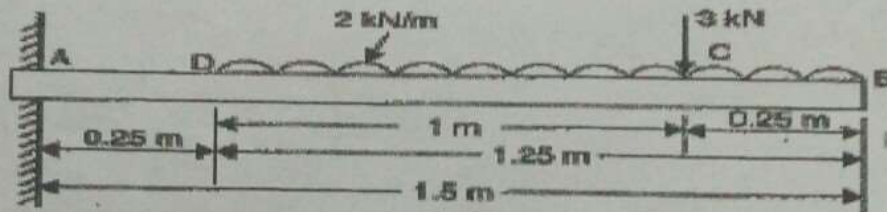

Fig.4.
- b. A cantilever 1.5 m long is loaded with a uniformly distributed load of  $2 \text{ kN/m}$  run over a length of  $1.25 \text{ m}$  from the free end shown in Fig.4. It also carries a point load of  $3 \text{ kN}$  at a distance of  $0.25 \text{ m}$  from the free end. Draw the shear force and bending moment diagrams of the cantilever.